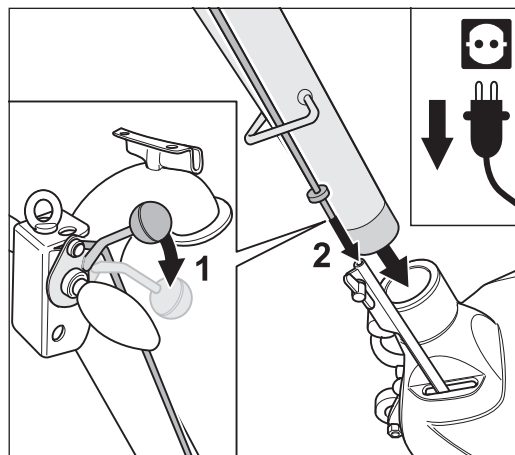

Fig. 57 When inserting the guide tube, make sure that the upper rod of the lowering mechanism feeds in correctly!
- 1 Press the lowering lever at the handle downwards (fig. 57, 1).
- 2 Insert the guide tube into the opening in the machine housing and at the same time insert the upper rod into the lower rod (fig. 57, 2).